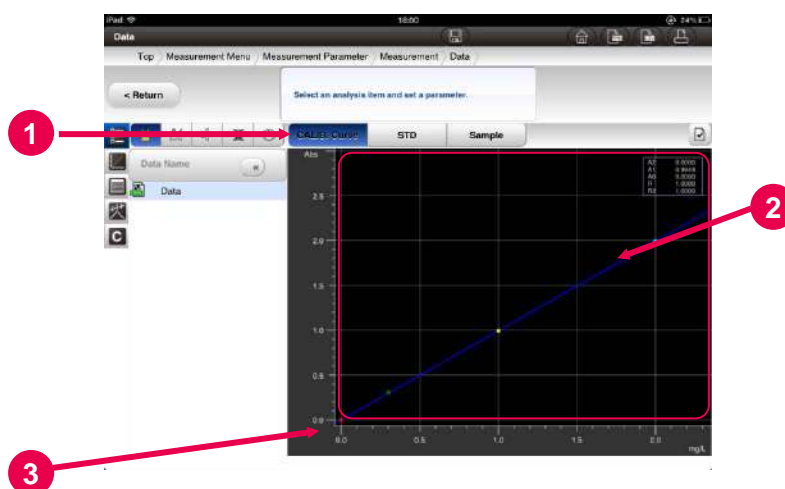

Fig. 5-27 Calibration Curve Data Check Window
- (1) To display the calibration curve, press the [CALIB. Curve] button
- (2) The calibration calibration curve graph (Fig. 5-27) is displayed. To enlarge the calibration curve, pinch out on the area you want to zoom in on. To shrink the calibration curve, pinch in the area you want to zoom out on.
- (3) When you double-tap on the intersection of the x- and y-axes in the calibration curve graph, the graph is auto-scaled. When you double-tap again, the scale is reset.